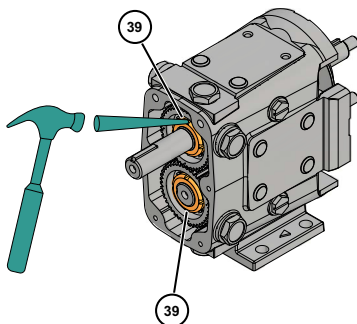

Figure 63 - Bend Lock Tab on Lock washers
7. Bend the locking tab on the lock washers into the locking nut slots, securing the gear locknut into place (Figure 63).